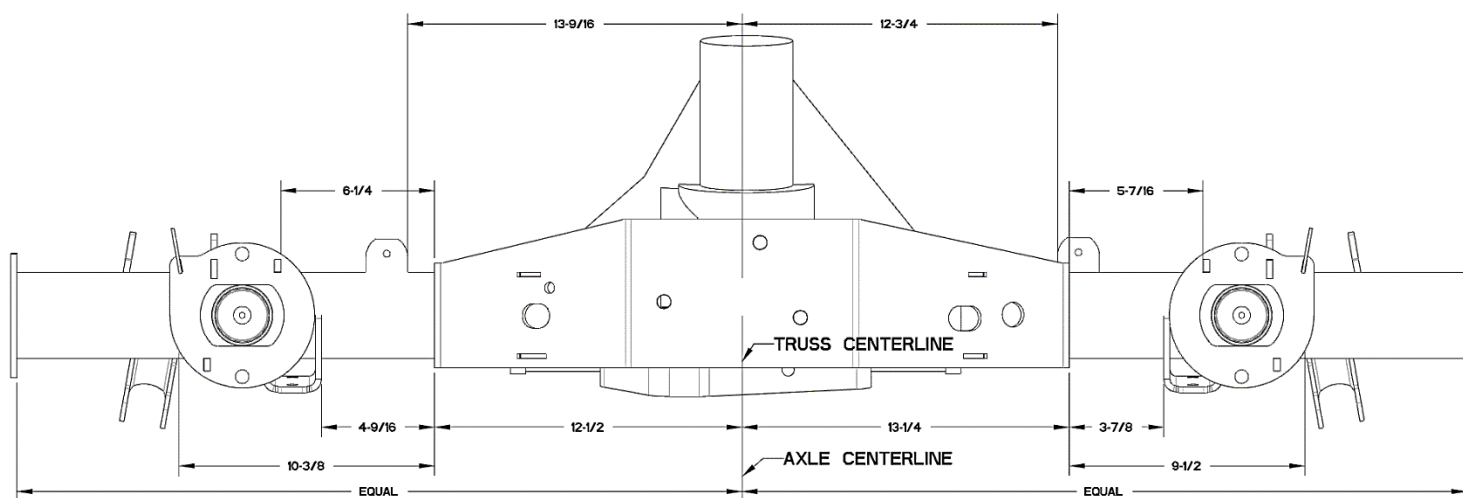

Fig.8
30. *****Refer to Figure 8 (last page) for set-up measurements*****
35. If you purchased the E-brake option, position E-brake cable retainer, tack weld in place (Figure 8).